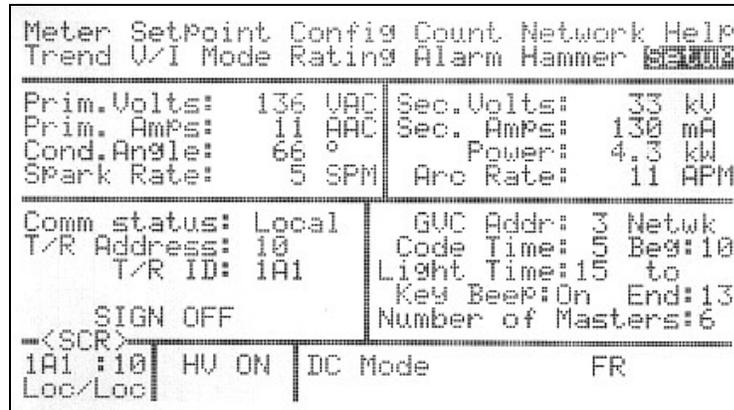

Figure 1-2
When you are connected to the network port, the display will search the network and find all of the units on it. They will be displayed based on the parameters entered in the **Setup** screen (fig. 1-2)
network ports. This address is defined by the **GVC Addr** parameter in fig. 1-2. It is selectable from 3 to 9 (A maximum of four network displays can exist on a network).
- The individual Optimizers on the network must also have unique addresses. These are defined in the **T/R Address** parameter in fig. 1-2.